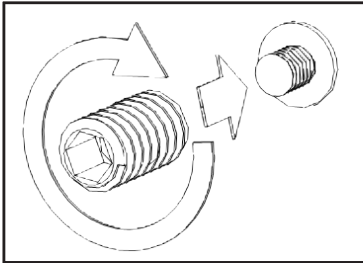
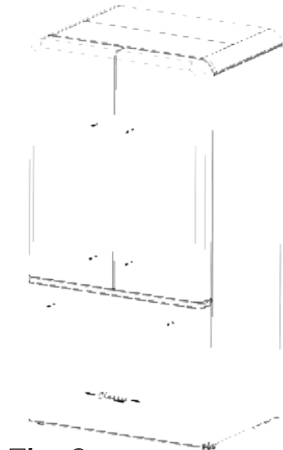

Fig. 1
Fig. 2
- 1) Twist on supplied threaded caps (x2) on to existing screws on the fridge door. To ensure no gap between the handle and the door, make sure that they meet the washer. (Fig. 1 & Fig. 2)